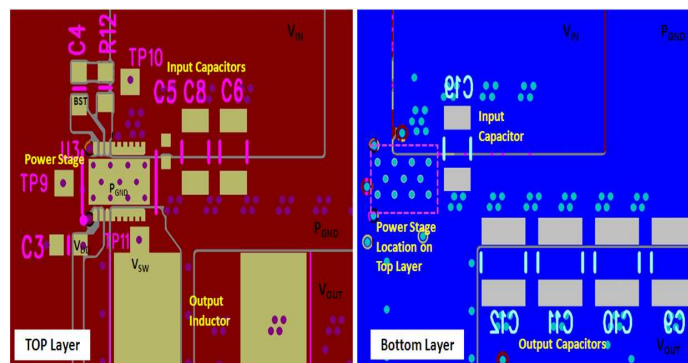

Figure 16. Recommended PCB Layout (Top Down View)
- The placement of the input capacitors relative to V_{IN} and P_{GND} pins of CSD97396Q4M device should have the highest priority during the component placement routine. It is critical to minimize these node lengths. As such, ceramic input capacitors need to be placed as close as possible to the V_{IN} and P_{GND} pins (see Figure 16). The example in Figure 16 uses 1 x 1 nF 0402 25 V and 3 x 10 μ F 1206 25 V ceramic capacitors (TDK Part # C3216X5R1C106KT or equivalent). Notice there are ceramic capacitors on both sides of the board with an appropriate amount of vias interconnecting both layers. In terms of priority of placement next to the Power Stage C5, C8 and C6, C19 should follow in order.
- Use the smallest drill size allowed in your design. The example in Figure 16 uses vias with a 10 mil drill hole and a 16 mil capture pad.